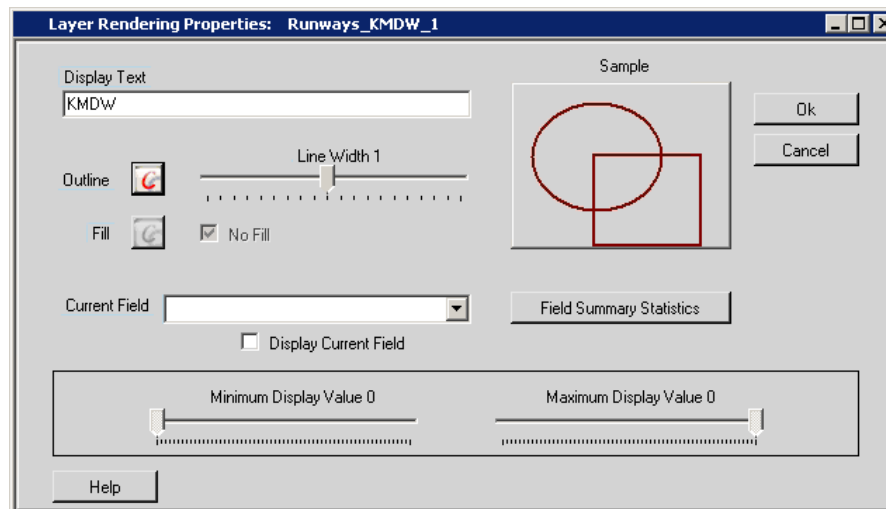

Figure 4-4 Layer Rendering Properties Dialog Box
- **Rendering Properties:** Opens the *Layer Rendering Properties* dialog box (Figure 4-4) which allows the user to customize the appearance of the selected layer.